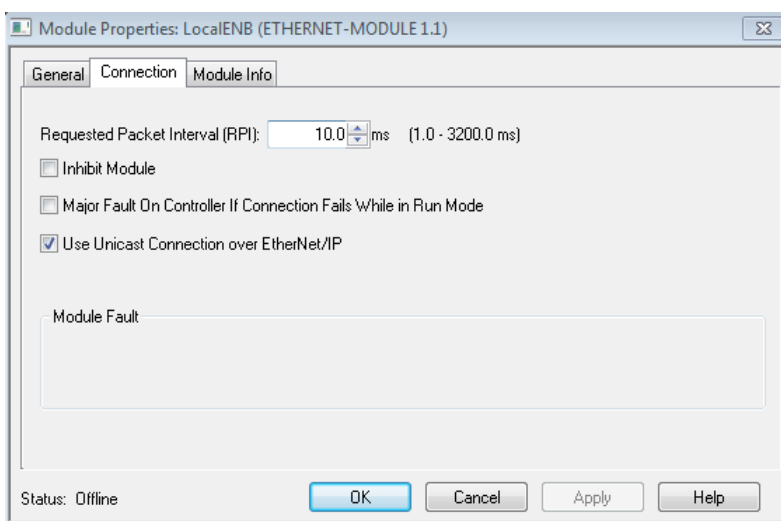

Figure 5-4: Setting Module RPI
- The “New Module” window now appears as a “Module Properties: LocalENB” window with the Connection tab selected. Set the “Requested Packet Interval (RPI)” value to 20.0 ms (this can be reduced to 10.0ms when not using WorkBench in combination with EtherNet/IP). If using firmware version 1.8 or higher, check the box “Use Unicast Connection over EtherNet/IP” if the option is available. For older versions of firmware leave this box unchecked. Click OK. (Figure 5-4: Setting Module RPI).